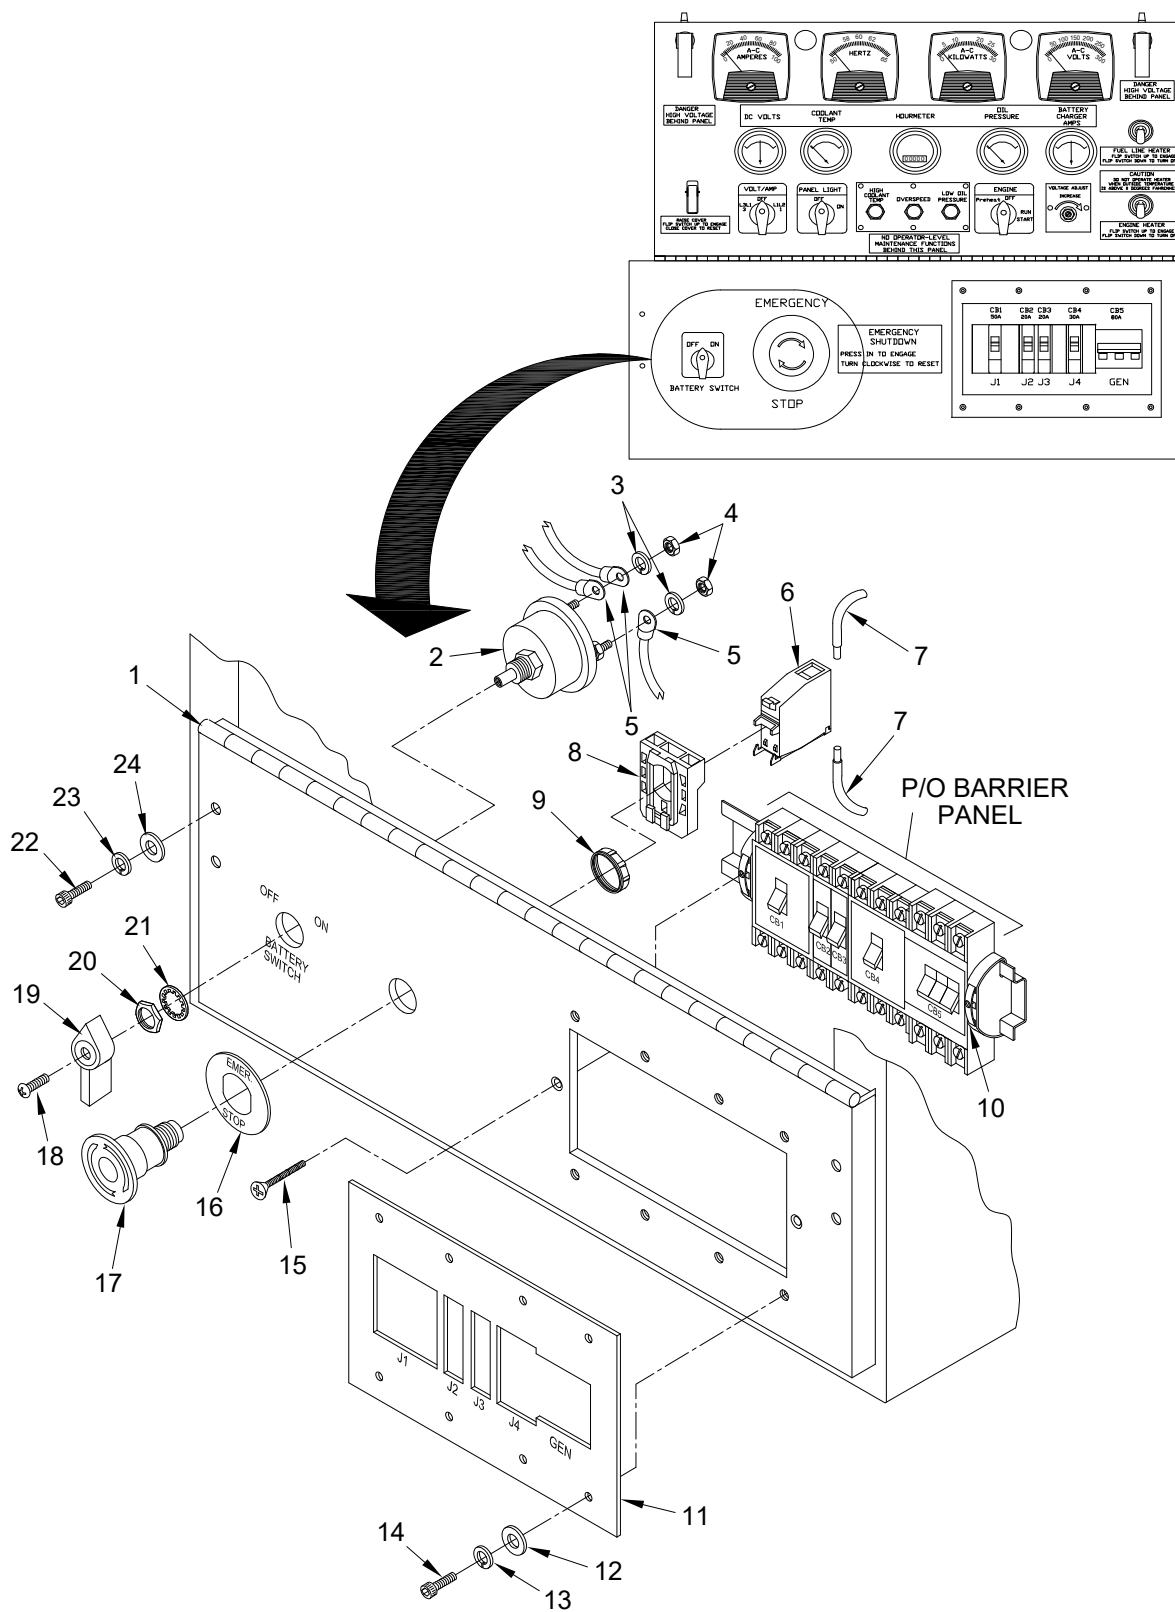

Figure 5. Battery Switch Removal/Replacement.
3. Remove and retain eight screws (Figure 5, Item 14), lock washers (Figure 5, Item 13), and flat washers (Figure 5, Item 12) from circuit breaker cover plate (Figure 5, Item 11). Remove and retain circuit breaker cover plate (Figure 5, Item 11) from control panel (Figure 5, Item 1).
4. Remove and retain two countersunk screws (Figure 5, Item 17) from control panel (Figure 5, Item 1).
5. Remove and retain four screws (Figure 5, Item 22), lock washers (Figure 5, Item 23), and flat washers (Figure 5, Item 24) that secure control panel (Figure 5, Item 1) to Genset.
6. Raise control panel (Figure 5, Item 1) to gain access to electrical connections on switch (Figure 5, Item 2). Remove and retain two nuts (Figure 5, Item 4) and lock washers (Figure 5, Item 3) that secure electrical connections (Figure 5, Item 5) to switch (Figure 5, Item 2).
7. Mark and remove wiring harness terminals (Figure 5, Item 5) from switch (Figure 5, Item 2).
8. Remove and retain screw (Figure 5, Item 18) and knob (Figure 5, Item 19) from switch (Figure 5, Item 2).
9. Remove and retain nut (Figure 5, Item 20) and lock washer (Figure 5, Item 21). Remove switch (Figure 5, Item 3) from control panel (Figure 5, Item 1).
1. Insert switch (Figure 5, Item 2) through control panel (Figure 5, Item 1) and secure using lock washer (Figure 5, Item 21) and nut (Figure 5, Item 20).
2. Place knob (Figure 5, Item 19) onto switch (Figure 5, Item 2) and secure with screw (Figure 5, Item 18).
3. Connect wiring harness terminals (Figure 5, Item 5) to switch (Figure 5, Item 2) and secure using two nuts (Figure 5, Item 4) and lock washers (Figure 5, Item 3).
4. Align two countersunk screws (Figure 5, Item 15) with clips (Figure 5, Item 10) and secure control panel (Figure 5, Item 1) to barrier panel.
5. Install circuit breaker cover plate (Figure 5, Item 11) and secure to control panel (Figure 5, Item 1) using eight screws (Figure 5, Item 14), lock washers (Figure 5, Item 13), and flat washers (Figure 5, Item 12).
6. Secure control panel (Figure 5, Item 1) to Genset using four screws (Figure 5, Item 22), lock washers (Figure 5, Item 23), and flat washers (Figure 5, Item 24).
7. Connect negative terminal to battery (see WP 0056). Start Genset (Figure 5, Item 1) in accordance with Genset Start Procedure (WP 0005) of this TM.
3. Remove and retain eight screws (Figure 5, Item 15), lock washers (Figure 5, Item 14), and flat washers (Figure 5, Item 13) from circuit breaker cover plate (Figure 5, Item 12). Remove and retain circuit breaker cover plate (Figure 5, Item 12) from control panel (Figure 5, Item 1).
4. Remove and retain two countersunk screws (Figure 5, Item 16) from control panel (Figure 5, Item 1).
5. Remove and retain four screws (Figure 5, Item 22), lock washers (Figure 5, Item 23) and flat washers (Figure 5, Item 24) that secure control panel (Figure 5, Item 1) to Genset.
6. Raise control panel (Figure 5, Item 1) to gain access to electrical connections on switch (Figure 5, Item 9).
7. Loosen but do not remove two screws securing electrical connections (Figure 5, Item 10) to switch (Figure 5, Item 9).
8. Mark and remove electrical connections (Figure 5, Item 10) from switch (Figure 5, Item 9).
9. Remove and retain switch (Figure 5, Item 9) by prying up on metal latch of switch (Figure 5, Item 9).
10. Remove and retain bracket (Figure 5, Item 8) by expanding metal clamp with small screw driver.
11. Remove and retain mounting nut (Figure 5, Item 7).
12. Remove plunger (Figure 5, Item 18) and label (Figure 5, Item 17) from front of control panel (Figure 5, Item 1).
1. Insert plunger (Figure 5, Item 18) through label (Figure 5, Item 17) and control panel (Figure 5, Item 1). Secure using mounting nut (Figure 5, Item 7).
2. Expand metal clamp of bracket (Figure 5, Item 8) with small screw driver and install onto plunger (Figure 5, Item 18).
3. Orientate and install switch (Figure 5, Item 9) onto bracket (Figure 5, Item 8).
4. Connect wiring harness terminals (Figure 5, Item 10) to switch (Figure 5, Item 9) and secure by tightening set screws.
5. Align two countersunk screws (Figure 5, Item 16) with clips (Figure 5, Item 11) and secure control panel (Figure 5, Item 1) to barrier panel.
6. Install circuit breaker cover plate (Figure 5, Item 12) and secure to control panel (Figure 5, Item 1) using eight screws (Figure 5, Item 15), lock washers (Figure 5, Item 14), and flat washers (Figure 5, Item 13).